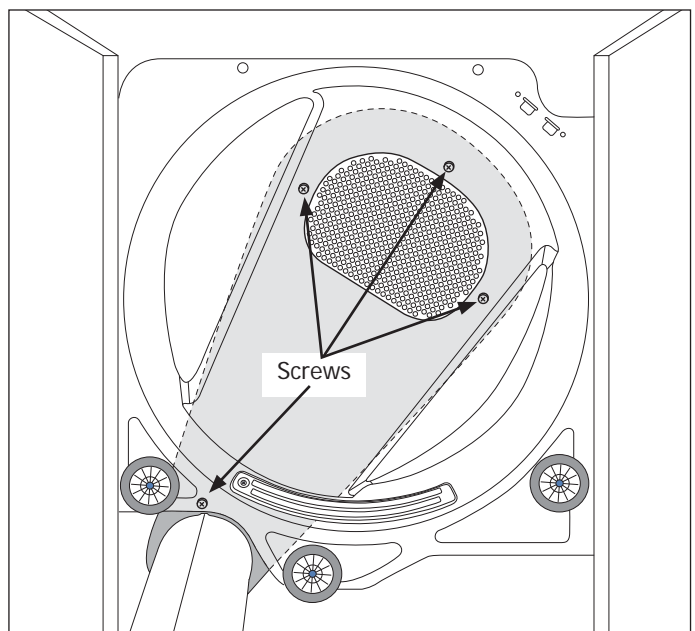

Figure 4-32.
2. From the inside of the inner panel, using a #2 square bit screwdriver and extract the screws securing the rear air duct to the rear inner panel. From the back of the unit, pull the rear air duct from the rear inner panel. (See Figure 4-32)